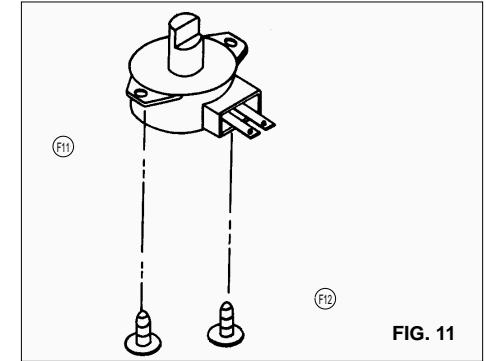

FIG. 11
10. To remove tray motor (Refer to Fig. 11)
1) Cut the tray motor cover parts from the base plate (Refer to Fig 11, 12).